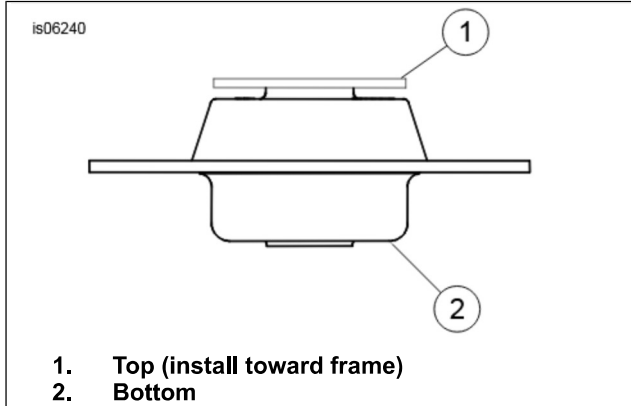

Figure 2. Front Isolator
See Figure 2. The flat side of the isolator is the top (1). Install next to the standoffs.